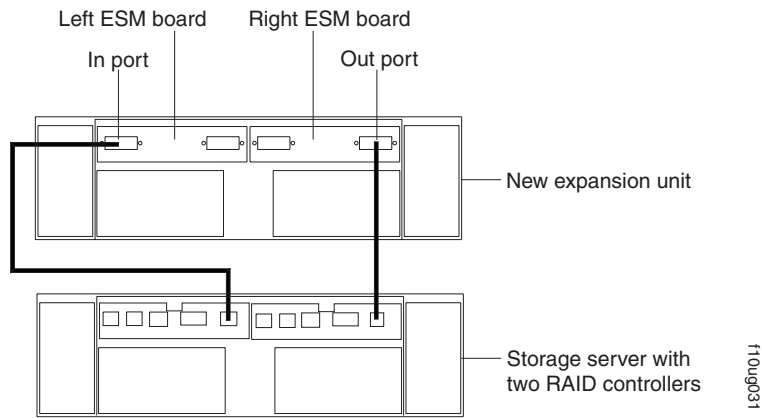

Figure 48. Adding an expansion unit
2. Use the following procedure and Figure 48 on page 54 to connect a single expansion unit to the storage server: